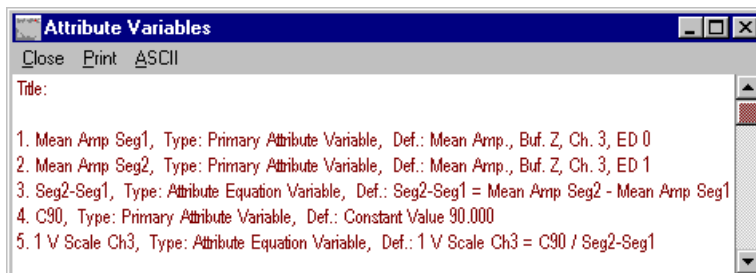

Figure H-32. A View Variable window showing the definitions of the five defined attribute variables.
Figure H-32 shows the list of attribute variables after all five have been defined. Note that the definitions of "Mean Amp Seg1" and "Mean Amp Seg2" are exactly identical except for the event displacement (ED) value. In the case of "Mean Amp Seg1" it is 0 and for "Mean Amp Seg2" it is 1. This is important because equation variables compare values for corresponding events. Normally, events correspond only when they are identically numbered. In this case we want to compare -- the value obtained for the first event in an event file with the value obtained for the second event in the same event file. That is what the "Seg2-Seg1" does, and the event displacement parameter allows us to do that. Finally, note also that the channel specified in the first two variables is 3, because that happens to be the channel containing the signal we wish to calibrate. Likewise, the specified event buffer is Z, for reasons discussed earlier.